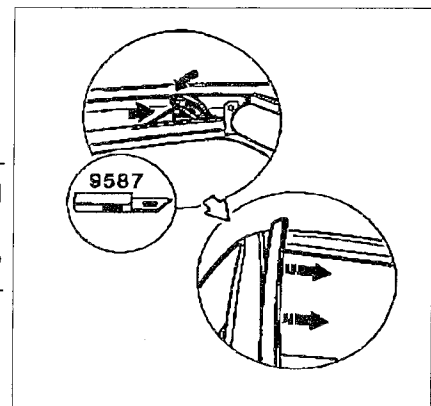

Figure 19
- Use the appropriate 9587 tool (left or right) for the side of the vehicle being repaired (Figure 19). Insert the tool into the guide rail channel behind the cable driver. Use a screwdriver to push the tool 9587 into the cable driver which will allow the cable driver to move forward. This will cause the fold-up lever to move down toward the rear. Leave the tool in place while repairs are being made.
- Begin to remove the trim strip starting at the front and working toward the rear (Figure 19). If necessary, use a piece of hardwood covered with leather and light hammer taps to dislodge the strip.